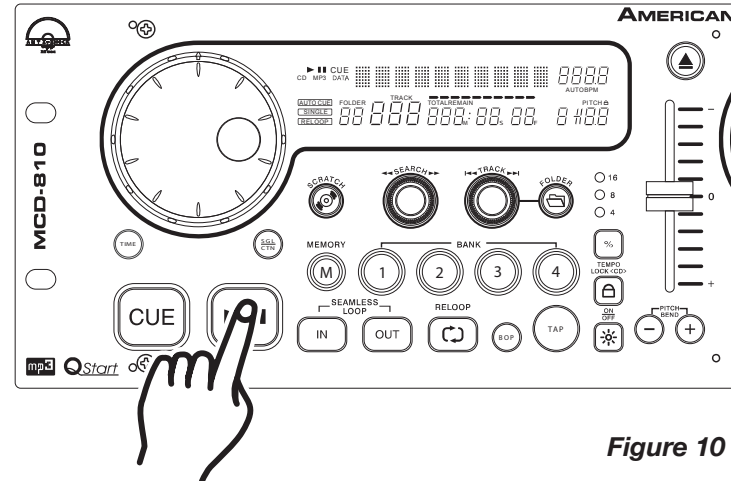
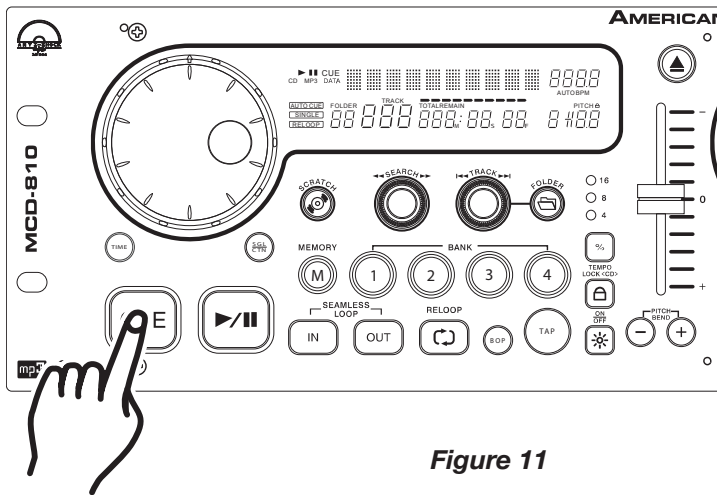
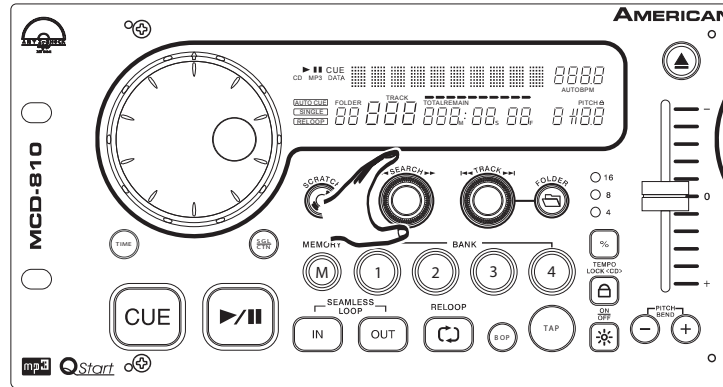

Figure 10
Figure 11
Figure 12
3. STARTING PLAYBACK - Figure 10
5. STOPPING PLAYBACK - Figures 10 & 11
- 1) Press the **PLAY/PAUSE BUTTON (22)** during playback. This will pause playback at the exact same point the **PLAY/PAUSE BUTTON (22)** was pressed.
- 2) Press the **CUE BUTTON (23)** during playback. This will pause playback and return the track to the last set cue point.
6. PAUSING - Figure 10
This feature allows you to scroll through a track frame by frame, allowing you to find and set a starting cue or loop point. To use the scroll function you must first be in Pause Mode (see section 5) or Cue Mode (see section 9). Once you are in Pause or Cue mode, turn the *SEARCH KNOB* (6) to scroll through the track (Figure 12). Turning the knob in a clockwise direction will advance the frame search and turning the knob in a counter-clockwise direction rewinds the frame search. When you use the *SEARCH KNOB* (6) the monitor (headphone level) function allows you to here what you are scrolling through. Once you reach your desired starting point you can set a cue (starting) point by pressing the *PLAY/PAUSE BUTTON* (22) as in Figure 10. Pressing the *CUE BUTTON* (23) as in Figure 11 will now return you to the point you just set.